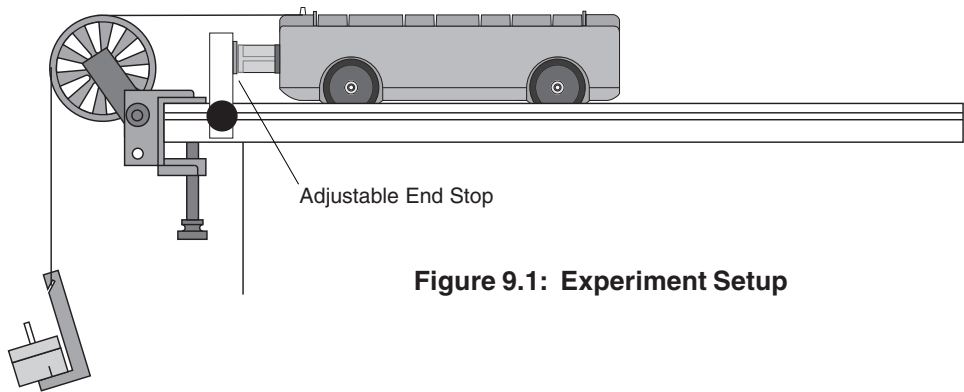

Figure 9.1: Experiment Setup
3. Set the car on the track with the spring plunger against the stopping block as shown in Figure 9.1. Attach a string to the car and attach the other end to a mass hanger, passing the string over the pulley.